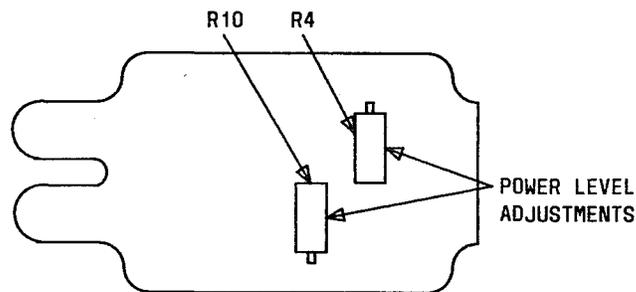

Fig. 33 — CP A157
6. Adjust **R4** to produce desired indication (Fig. 33) and do Step 13.
7. Adjust **R10** to produce desired indication (Fig. 33) and do Step 13.